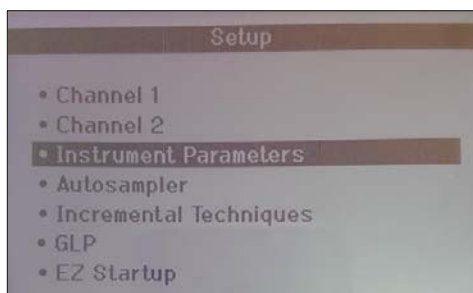

**Figure 8**
3. Set the **Time Interval** to around **5 seconds**. See Figure 8.